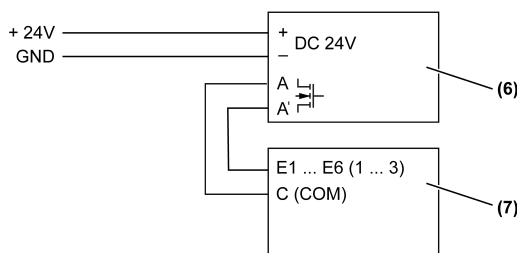

Figure 5: Connection to Multi station, Rotary sensor
| (Figure 5) | (7) Multi station, Art. no.: 23066REGHE, Rotary sensor, Art. NoD-S4092TS.: |